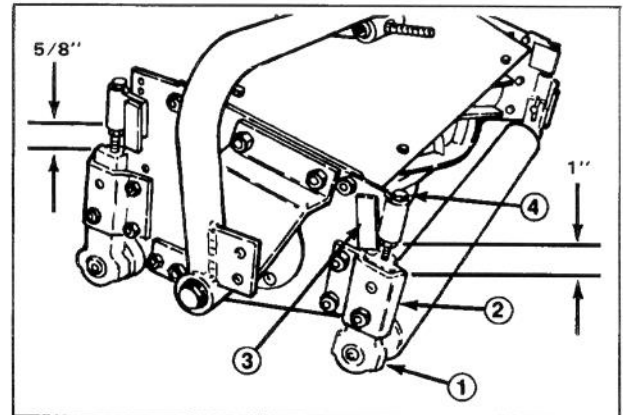

Figure 6
LEVEL REAR ROLLER (Fig. 6) (Floating Cutting Unit)
2. Slightly loosen (crack) nut securing each roller bracket to angle bracket (Fig. 6).
3. Adjust support capscREW to achieve $1'' \pm 1/16$ dimension between Height-of-Cut support and front roller bracket (2 places) (Fig. 6).
4. Adjust support capscREW to achieve $5/8'' \pm 1/16$ dimension between Height-of-Cut support and rear roller bracket (2 places) (Fig. 6).